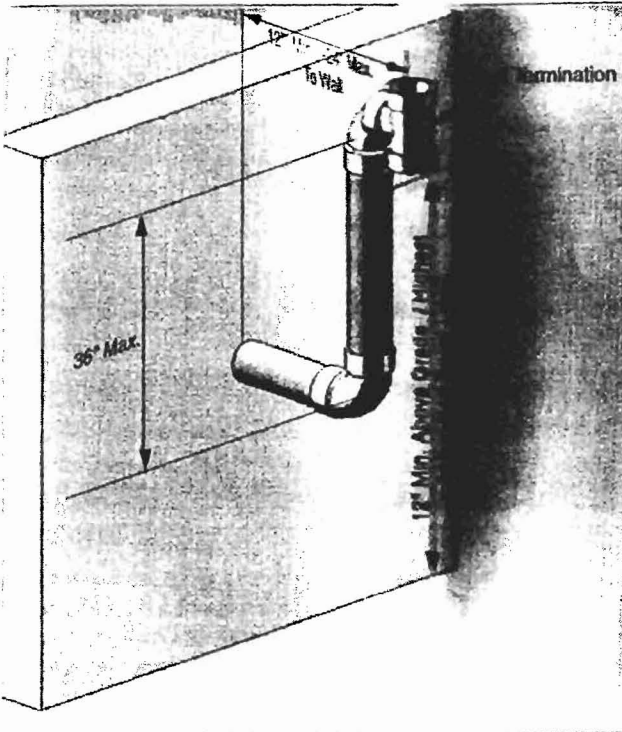

Fig. 30: Category IV - Sidewall Snorkel Termination of Vent Pipe with Tee Termination
- Using a tee as shown in Fig. 27 page 26 or Fig. 30 page 27 .